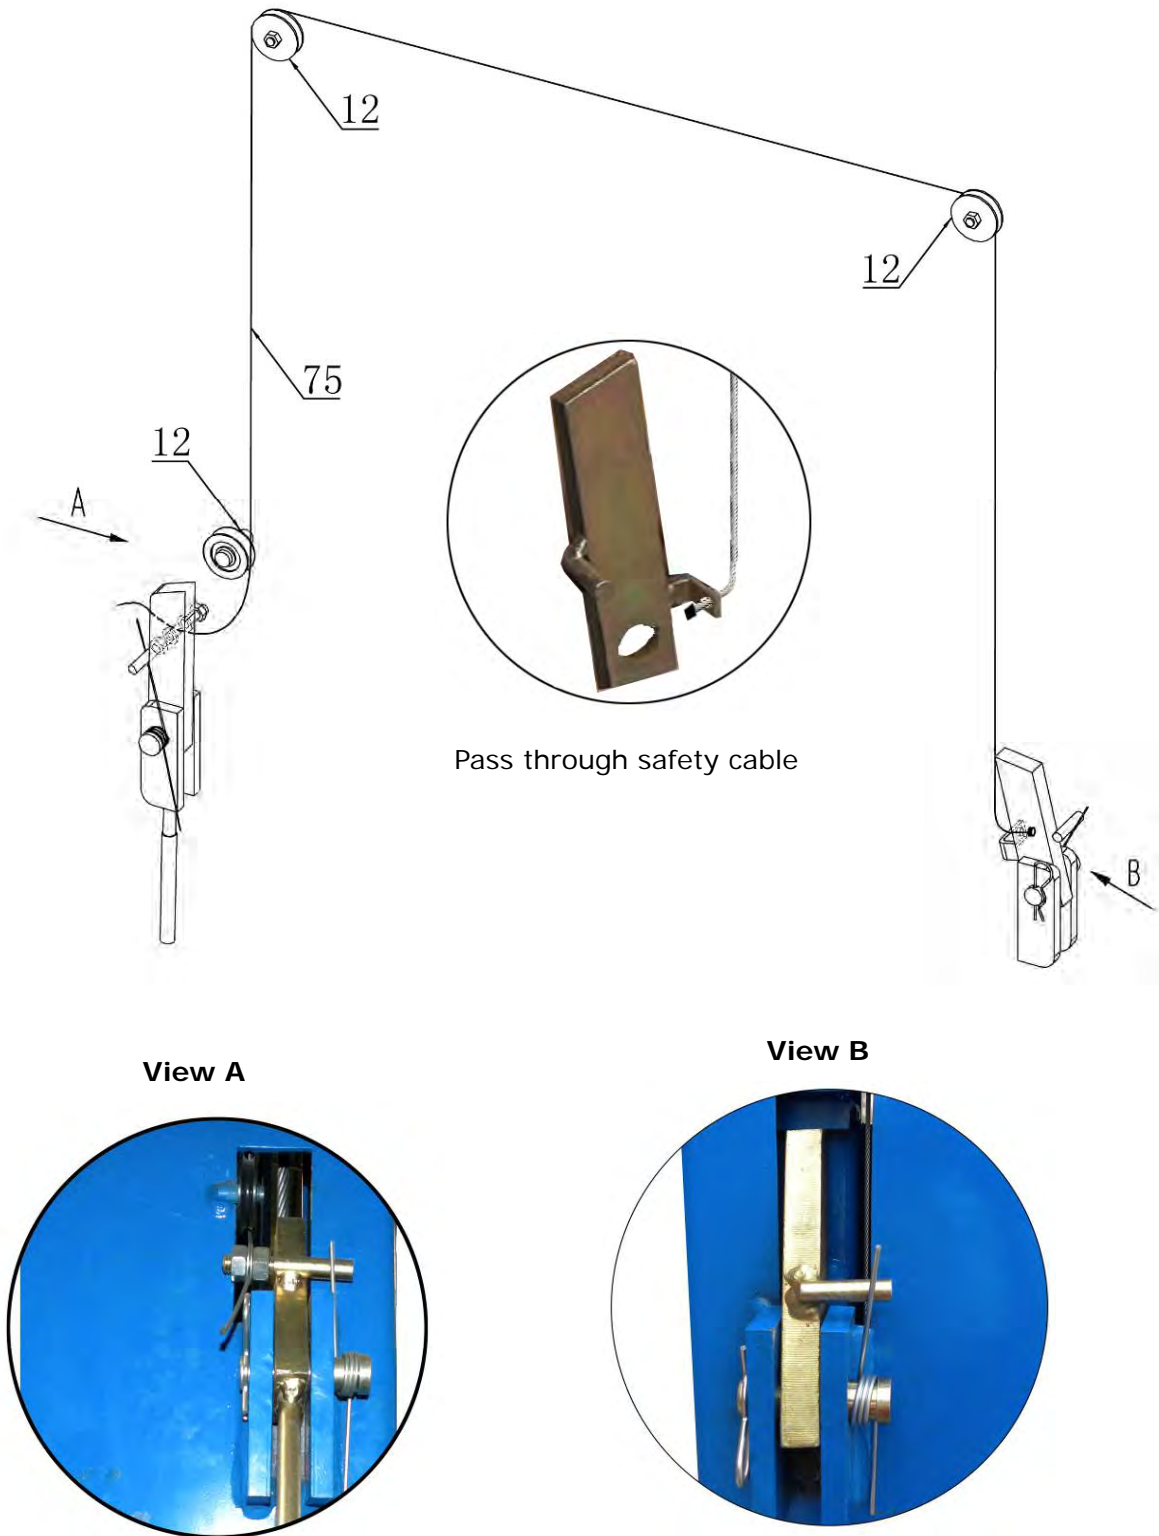

Fig. 16
L. Install the safety cable (See Fig. 16).